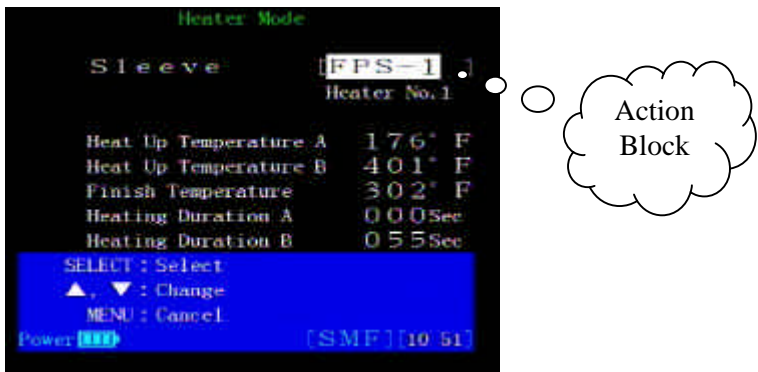

Figure 10. Editing Action Blocks
7.2.1 Action blocks are used to edit various functions and numeric inputs throughout the splicer menus. They are indicated on screen by a double bracket as show in Figure 10. For example, to change the available functions under HEATER CONDITION, perform the following procedure: